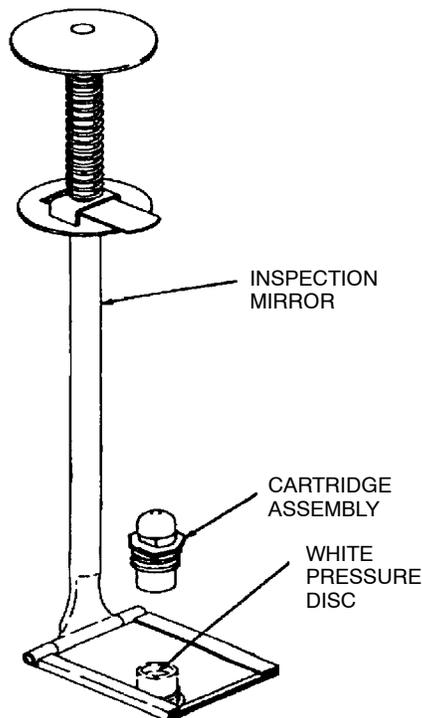

Figure 31. Verify Presence of White Pressure Disc
(3) Verify presence of white pressure disc in cartridge using inspection mirror (Figure 31). (QA)